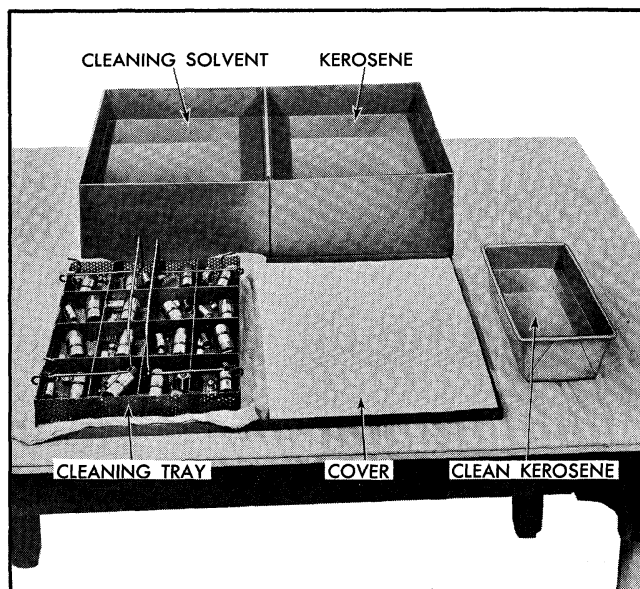

Fig. 6-23 Lifter Wash Tank and Tray
3. Drain oil out of lifter body and place all valve lifter parts in separate compartment of tray from wash tank J-5821 (Fig. 6-23).